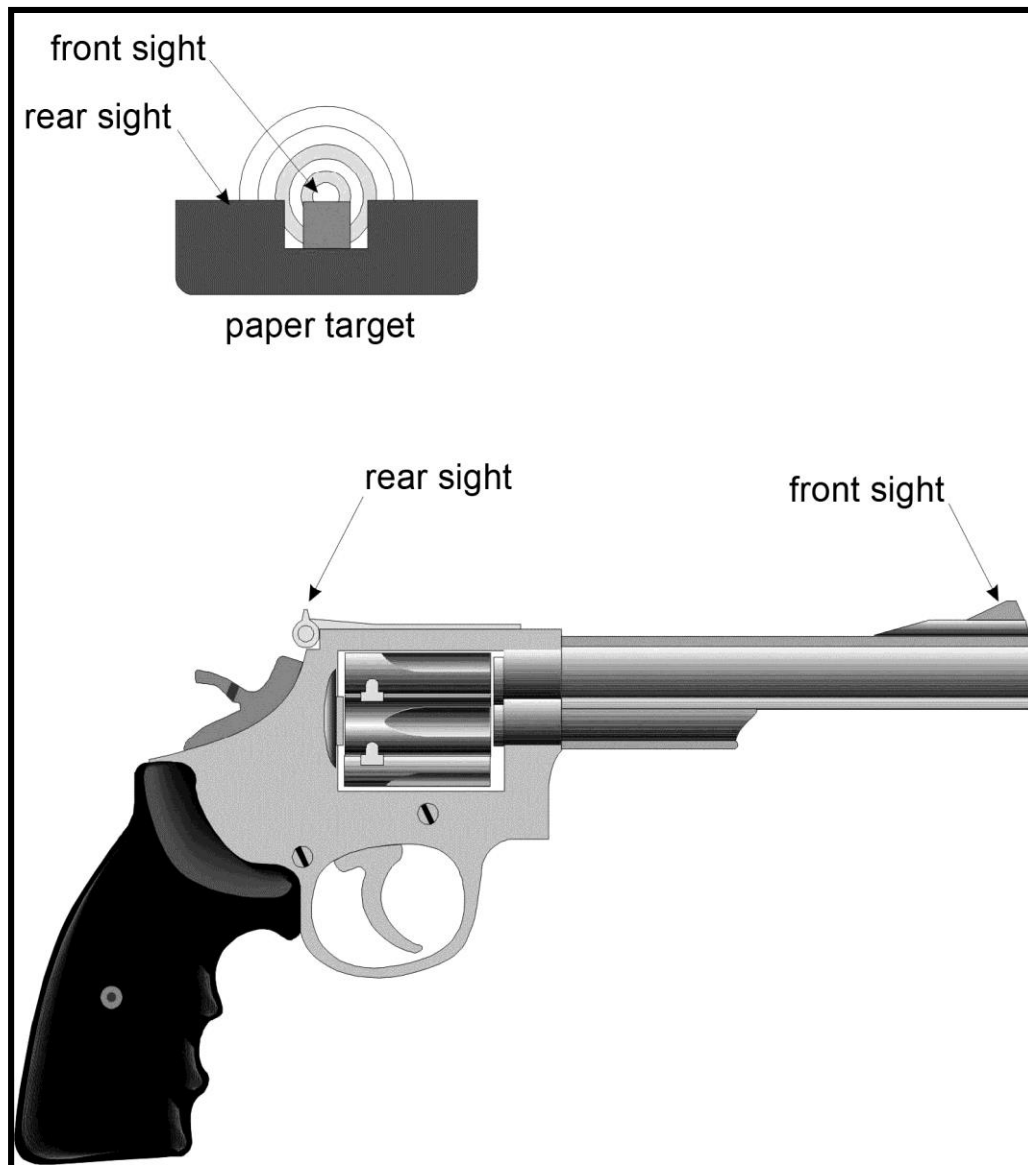

Figure 126. Open Sights Aligned on a Target
- c. You must also learn to correctly use your firearm's sight if your aim is to be accurate. Open sights require you to physically line up both rear and front sights with the target. This process is called sight alignment. When you aim any sight at a target, a sight picture is created (Figure 126).